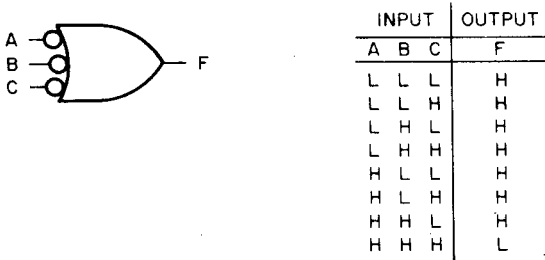

Figure 8-5 Symbol, NOR Function
- c. NOR—The symbol in Figure 8-5 represents another version of the NOR function. The output (F) is high if one or more of the inputs